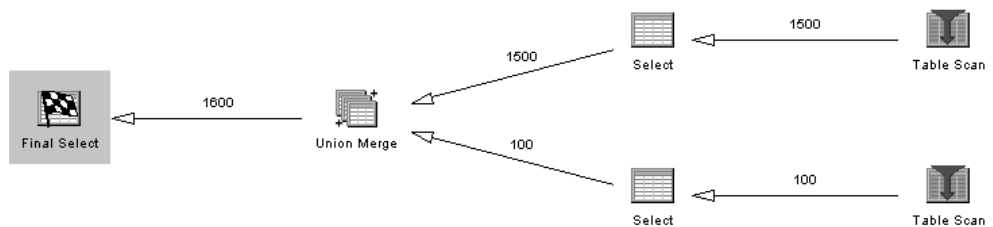

Figure 16. UNION ALL graph
- ___ 7. Verify that the graph that appears resembles the example shown in Figure 16.